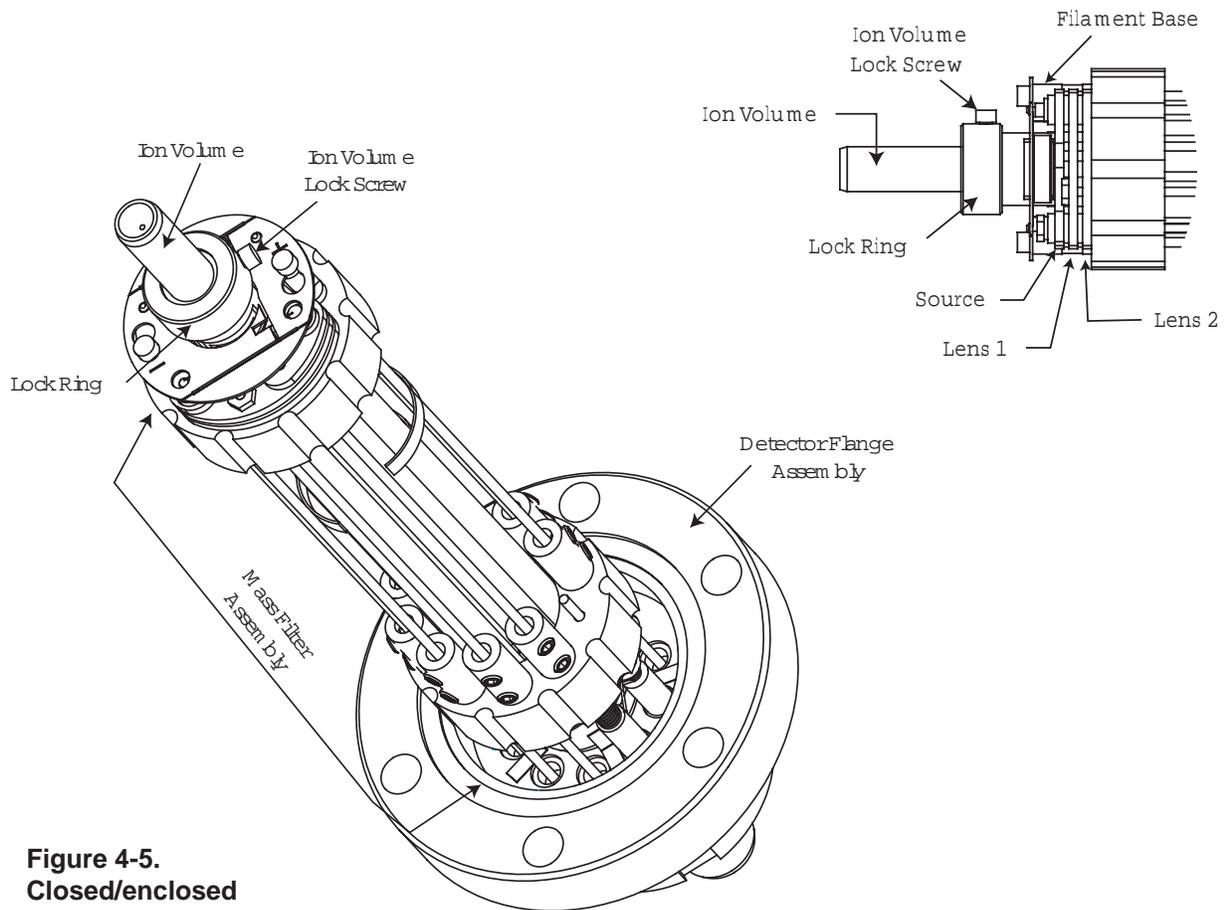
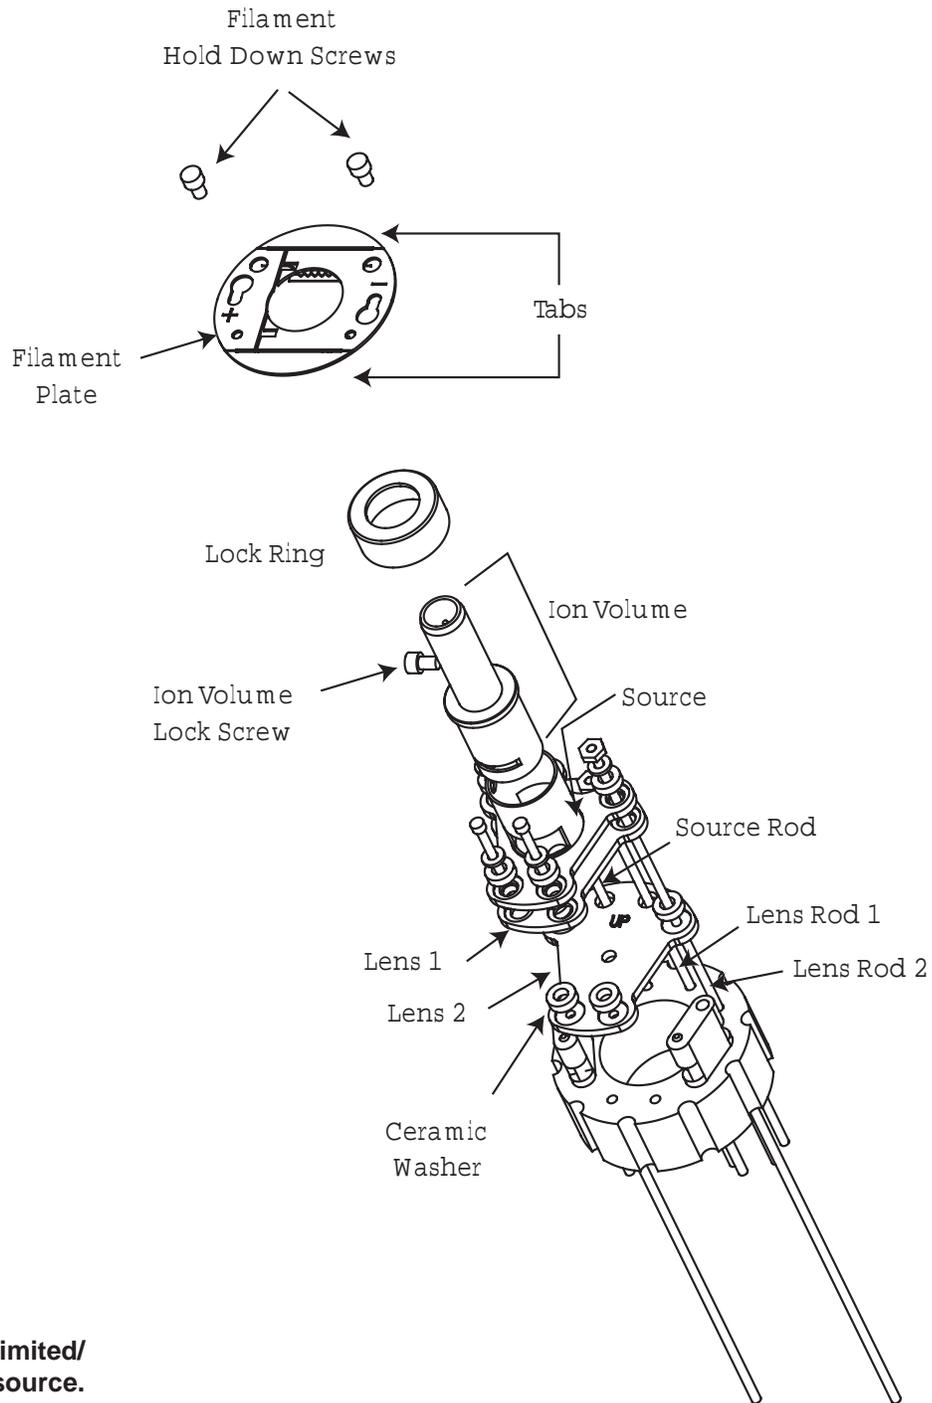

Figure 4-5.
Figure 4-7.
Handling the filament by the shorting tabs (Figure 4-5) on the filament plate will ensure against contamination through handling since these tabs will eventually be discarded.
1. Loosen and remove the three (3) locknuts that hold the source connection rods in place on the lenses. Refer to Figure 4-5 and Figure 4-7.
2. Loosen and remove the three (3) screws that hold the lens together in sandwich form. Be careful not to lose the small ceramic or metal washers from the source; each serves to hold the source in precise alignment. See Figure 4-7.
7. Reassemble the source (Figure 4-7).
3. Once the quadrupole head has been checked, replace the ion volume by setting it back on the head (Figure 4-5) and secure it with the lock screw. Insert the head into the vacuum chamber and secure using the six bolts originally removed.